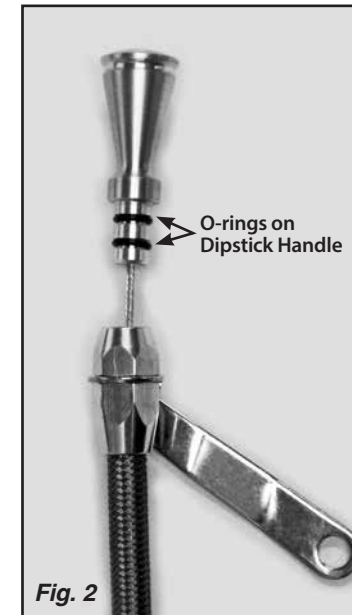
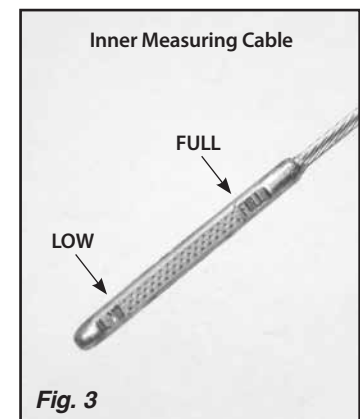

Fig. 2
Fig. 3
**Step 4:** Lightly lubricate the o-rings on the dipstick handle with engine oil. **Fig. 2** Insert the handle and inner measuring cable fully into the dipstick tube assembly. Fill the engine with the appropriate amount of oil for your particular application. Verify that the oil level is at the FULL mark on the inner measuring cable. **Fig. 3** If it is not, call Lokar Technical Support for assistance. If the oil level reads correctly, then return the handle and inner measuring cable into the dipstick tube assembly.